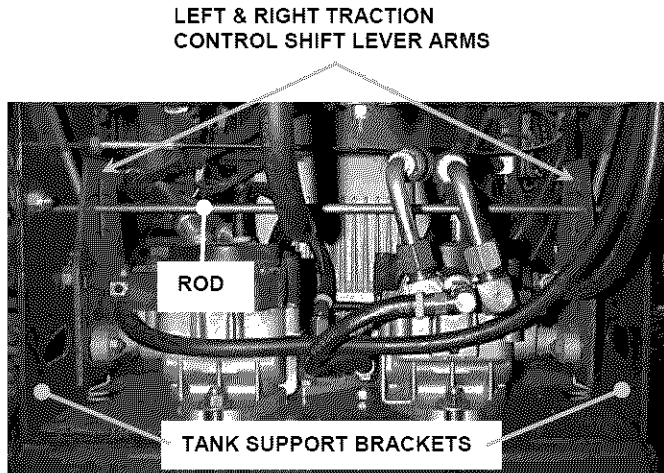

FIGURE 3.8
STEP 3: Insert rod (5/16" diameter x 20" long) through alignment holes in the left and right traction control shift lever arms and the tank support bracket. The rod should pass through both the left and right traction control shift lever arms. See Figure 3.8.